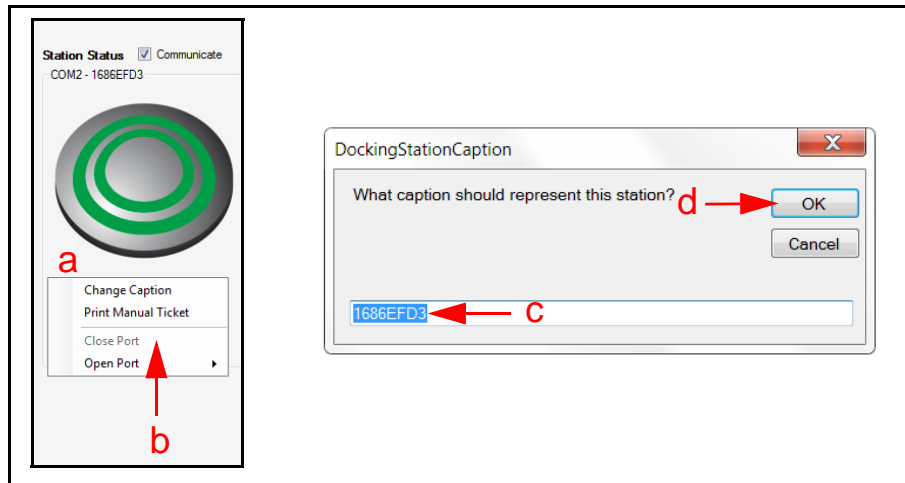

Figure 37 Changing the Station Status Identifier (Docking Station Caption)
1. Right-click below the Station Status icon (Figure 37 a).
2. From the pop-up menu, select "Print Manual Ticket" (Figure 37 b).
2. From the pop-up menu, select "Change Caption" (Figure 37 b).
3. Enter the desired caption for the Read/Write Tool in the Docking Station Caption dialog box (Figure 37 c), then click the OK button (Figure 37 d).